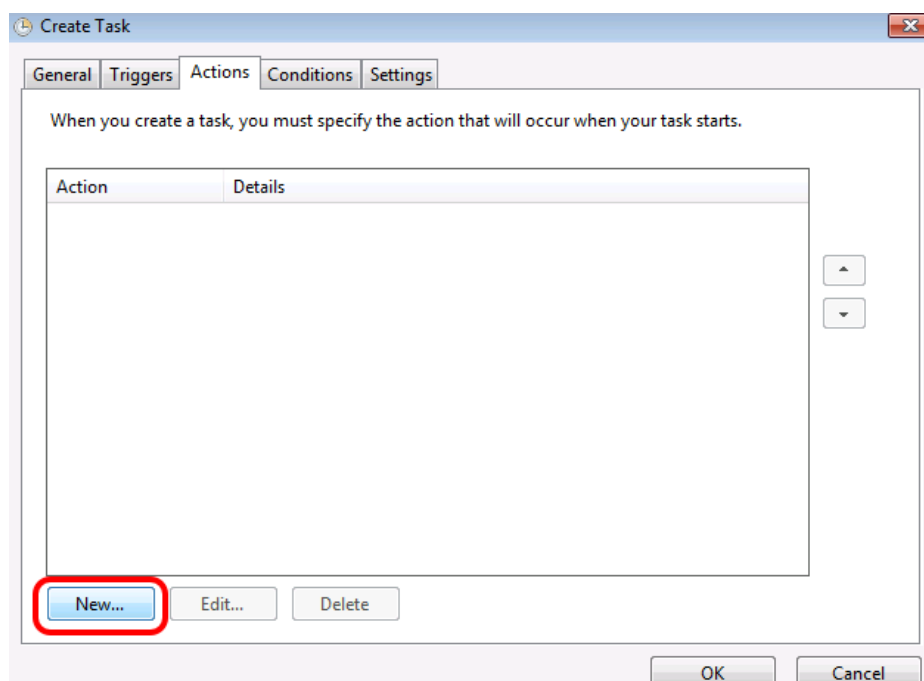

Fig. C.28: New Action creation
STEP 5 – In *Create Task* window please select *Tab Actions* and click on *New....* to create a new action (Fig. C.28).